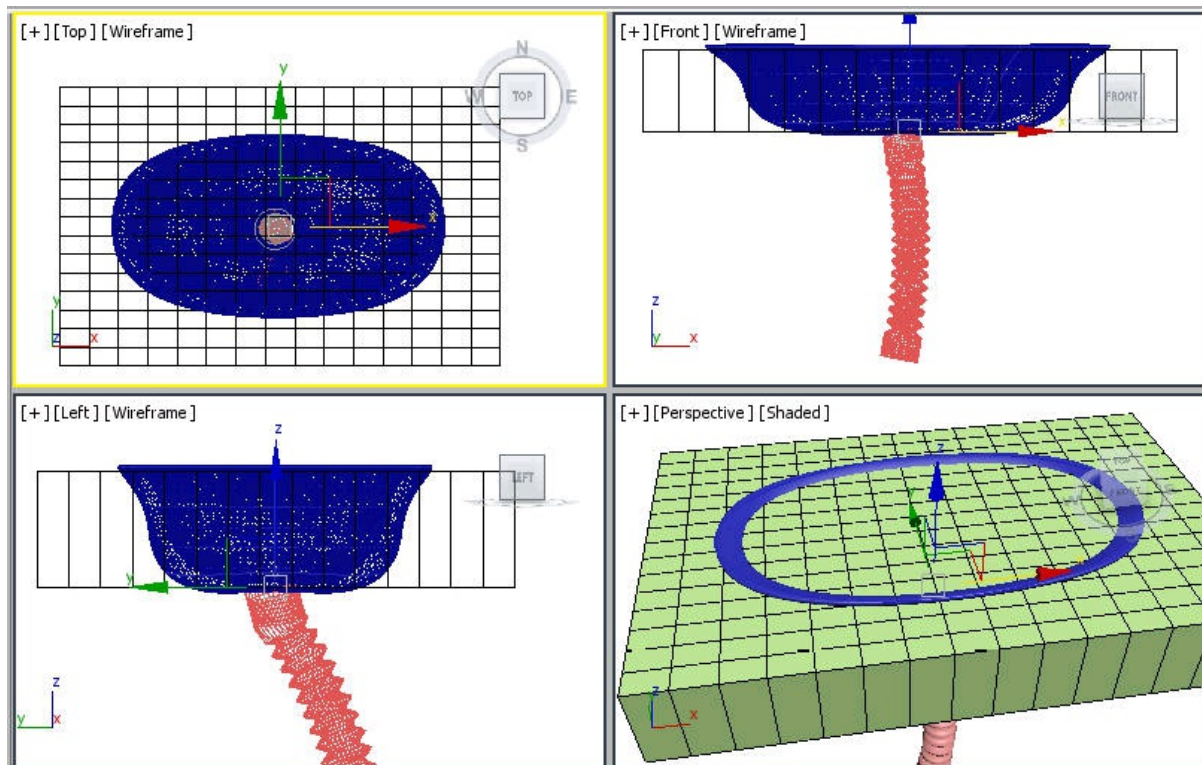

Figure 10-72 The washbasin slab created and aligned in viewports
2. Modify the name of the box to *washbasin slab* and align it, as shown in Figure 10-72.